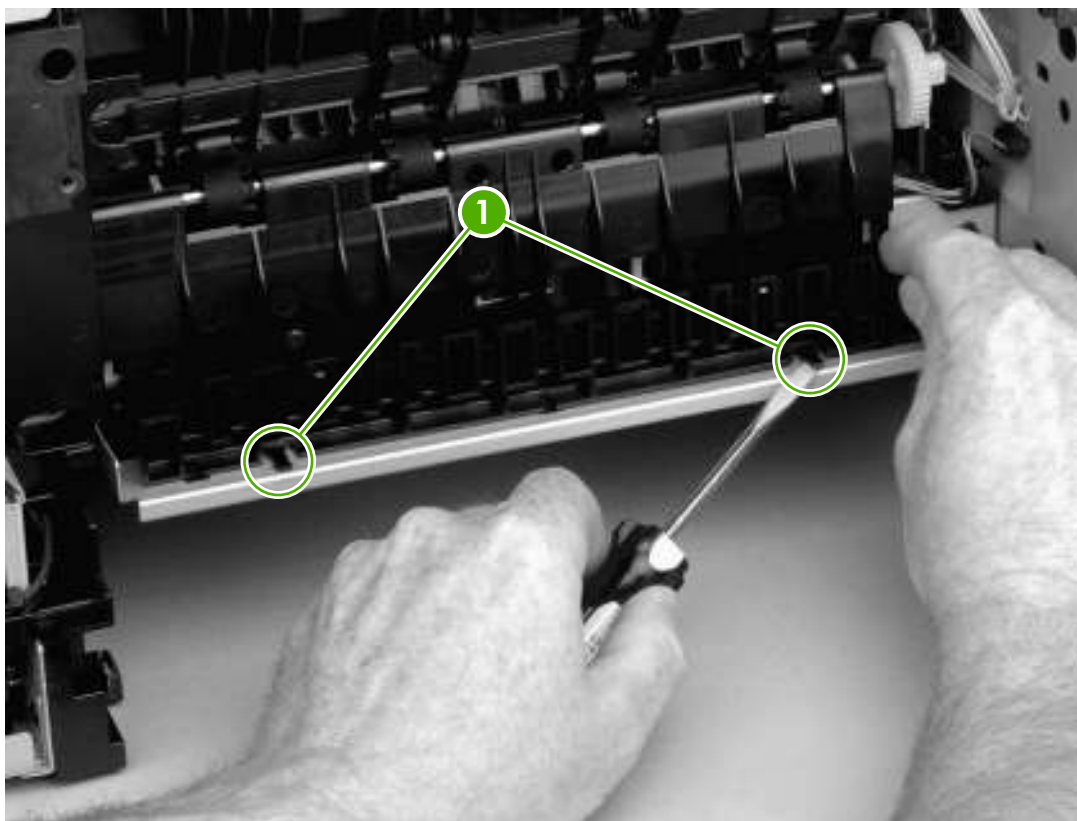

Figure 5-16 Removing the fuser (1 of 3)
- Duplexer inlet guide (see Figure 5-16 Removing the fuser \(1 of 3\) on page 83)